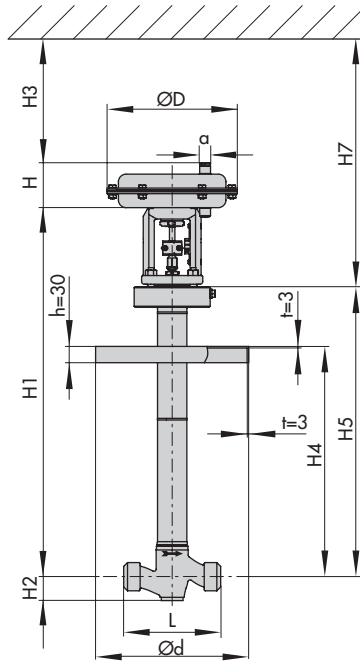
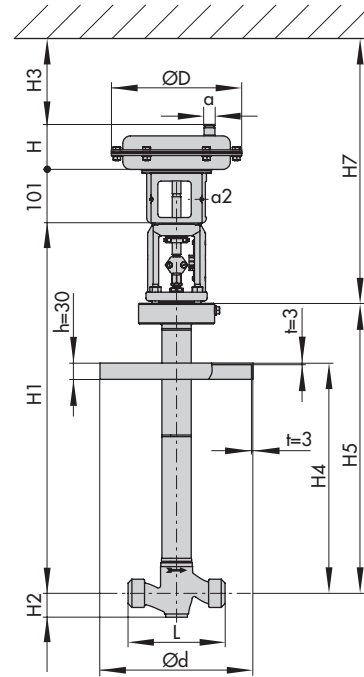

Fig. 7: Type 3248-1 Globe Valve with stainless steel valve body
Fig. 8: Type 3248-7 Globe Valve with stainless steel valve body
**Table 4.1:** Stainless steel valve body, PN 16 to 40 according to EN (Fig. 7, Fig. 8)
**Table 4.2:** Stainless steel valve body, PN 63 to 100 according to EN (Fig. 7, Fig. 8)